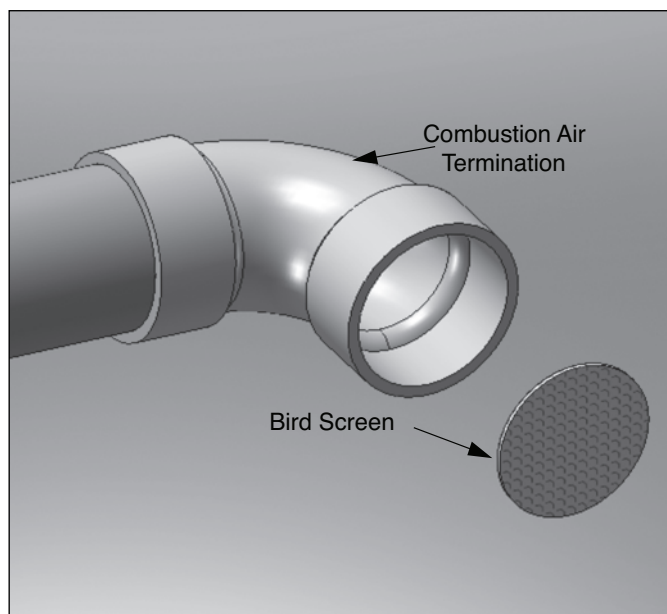

Fig. 10: Horizontal Combustion Air Bird Screen Installation with 90° Elbow Termination
1. The vent and combustion air terminations must include a factory supplied "bird screen" installed as shown in Fig. 3 on page 16 & Fig. 10 on page 20.